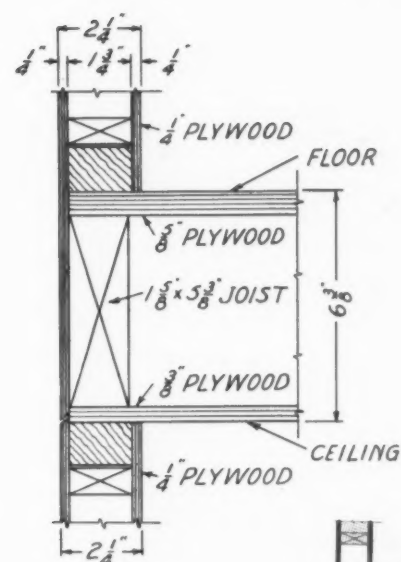

Figure 6
**Two-story houses:** It is both practical and feasible to erect two-story houses with prefabricated panels as constructed by the Forest Products Laboratory. A connection between the first and second stories at the outside wall is shown in figure 6. This figure includes portions of the wall of the first floor, the floor panel between the first and second stories,